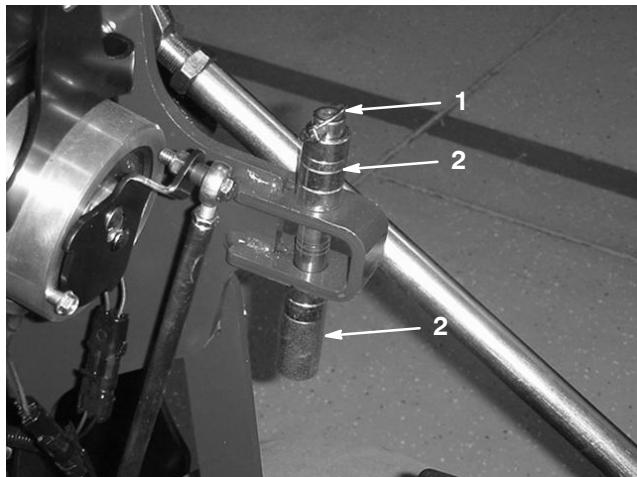

Figure 29
- Remove the lynch pin retaining the spacers and depth pins (Fig. 29).